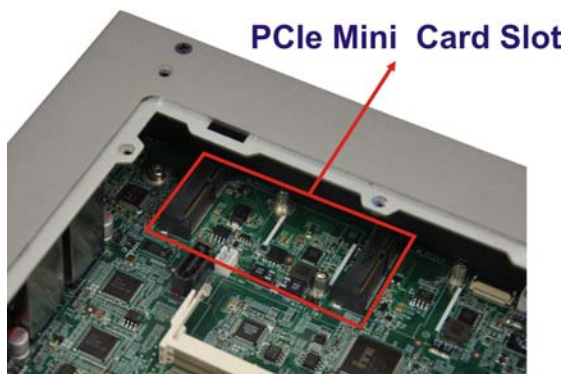

Figure 3-5: PCIe Mini Slot Location
Step 3: Locate the PCIe Mini slot (Figure 3-5).